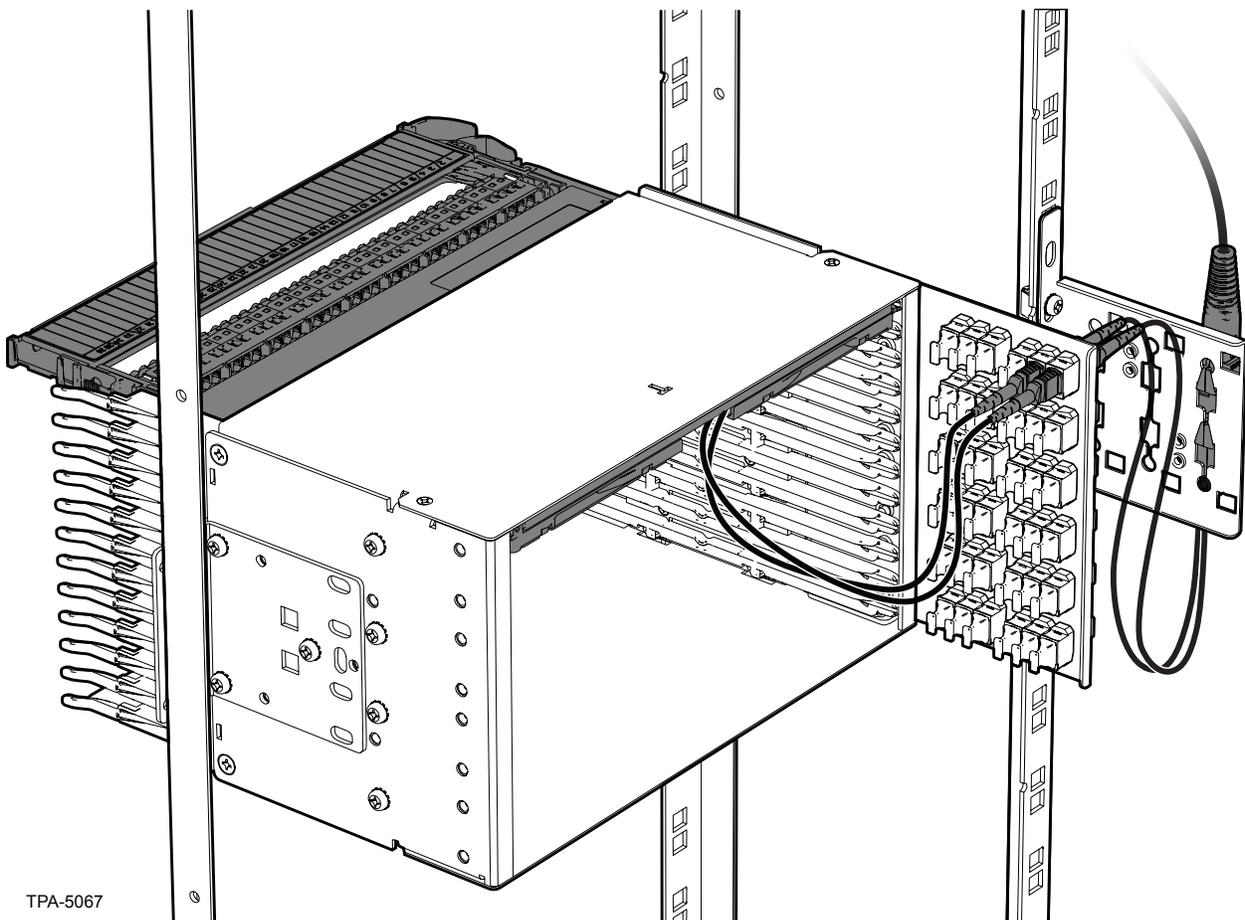

Figure 6
**Step 11:** Mate connectors into the adapters in the order listed on the bracket (Figure 6).